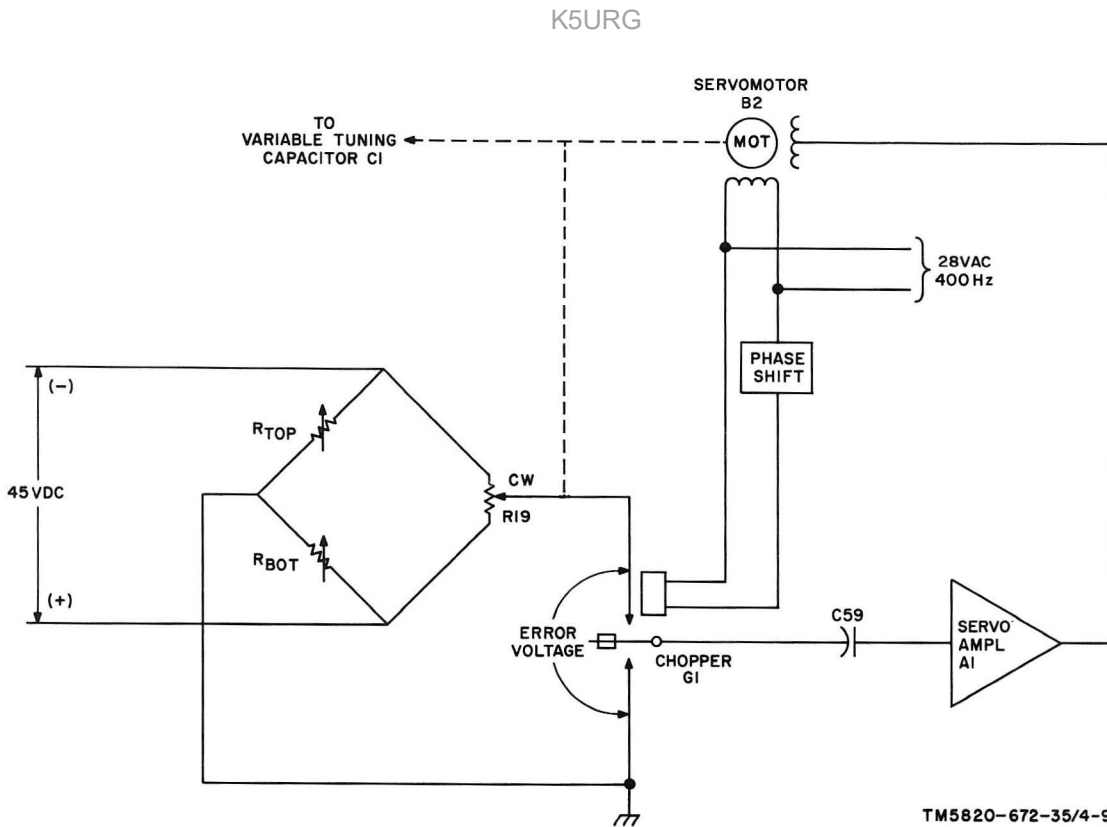

Figure 1-3. Basic servosystem, simplified schematic diagram.
c. Resistors A3R1 through A3R8 and A3R11 through A3R56 (fig. 5-5) form R_{top} and R_{bot} as described in paragraph 1-8. Motor driven switches A3S1 through A3S4 short out the appropriate resistors to give R_{top} and R_{bot} resistance values corresponding to the selected frequency. The voltage at the midpoint between R_{top} and R_{bot} is compared to that at the wiper of R19 (fig. 1-3) as described in paragraph 1-8. The 400-Hz signal voltage, which results if the two voltages differ, is fed to servoamplifier A1 (fig. 1-5) which amplifies the signal 1,000 times and applies the signal to servomotor B2 (fig. 1-3). The servomotor drives tuning capacitor C1 and follow-potentiometer R19 in the direction which reduces the dc voltage difference. When the servomotor has rotated R19 enough to reduce this voltage difference to approximately 10 millivolts, it no longer develops sufficient torque to move the tuning capacitor and the associated gear train. The servomechanism has now completed its function. The servosystem remains energized for the remainder of its 20-second cycle. Capacitors A3C1 and A3C2, in the timing circuit, gradually accumulate charge through resistors A3R61 and A3R62 until finally the voltage across A3C1 reaches about 0.5 volt. The gate of unijunction transistor A3CR31 then conducts, causing the anode path to fire. This operates relay A3K7, opening contacts 8-13 and 6-4 to turn off the servosystem. Transistor A3CR31 continues to conduct and hold relay A3K7 until +28 volts dc is removed from terminal 1 of A3K7, and capacitors A3C1 and A3C2 discharge. This occurs at the start of the next tuning cycle through the action of A3K6.
The basic servosystem is shown in figure 1-3.